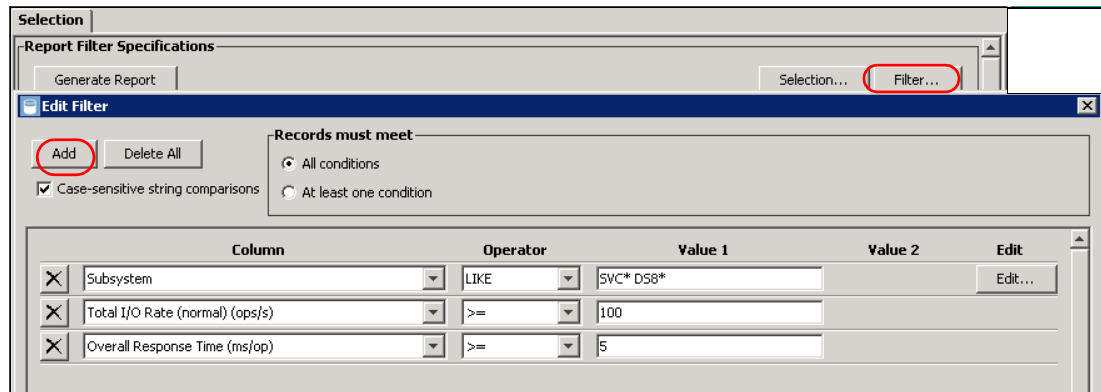

Figure 13-123 Filters for the top volumes tailored reports
3. In the Edit Filter window (see Figure 13-123 on page 456), click **Add** to add the conditions. In this example, we limit the report to Subsystems SVC* and DS8*. We also limit the report to the volumes that have an I/O rate greater than 100 Ops/sec and a Response Time greater than 5 ms.